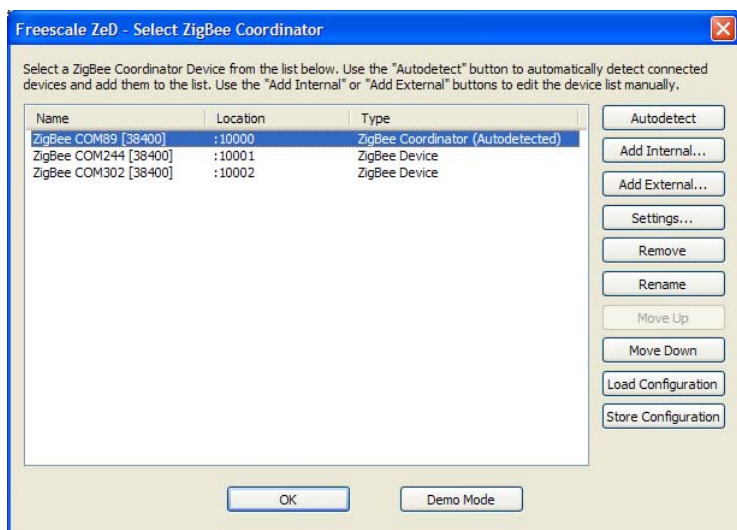

Figure 11. ZigBee Coordinator Selection Window
4. If the DCU board is detected, the board port is displayed in the list as having the type “ZigBee Coordinator (Autodetected)” as shown in the Coordinator Selection window (Figure 11).